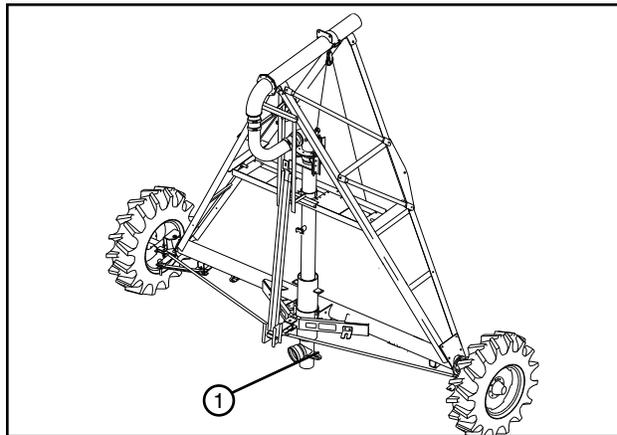

Figure 42-1 1. Riser Pipe
22. Connect the water supply line to the lower riser. See figure 42-1.